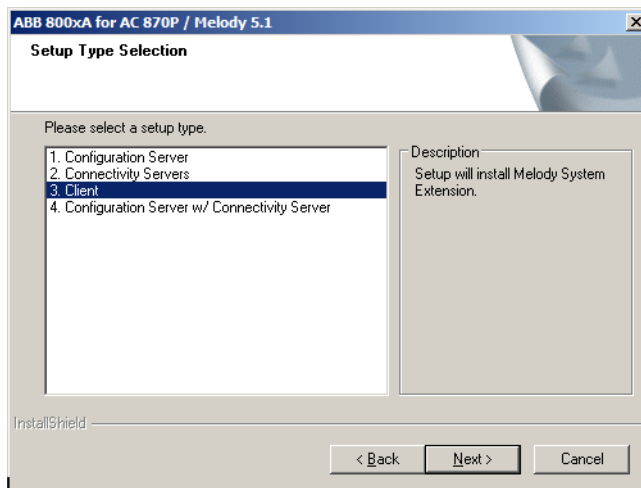

Figure 39. Setup Type Selection Dialog Box
- Use the Setup Type Selection dialog box, Figure 39, to select the correct setup type based on the node type where the 800xA for AC 870P/Melody software is currently being installed. Refer to Table 9 for guidelines.